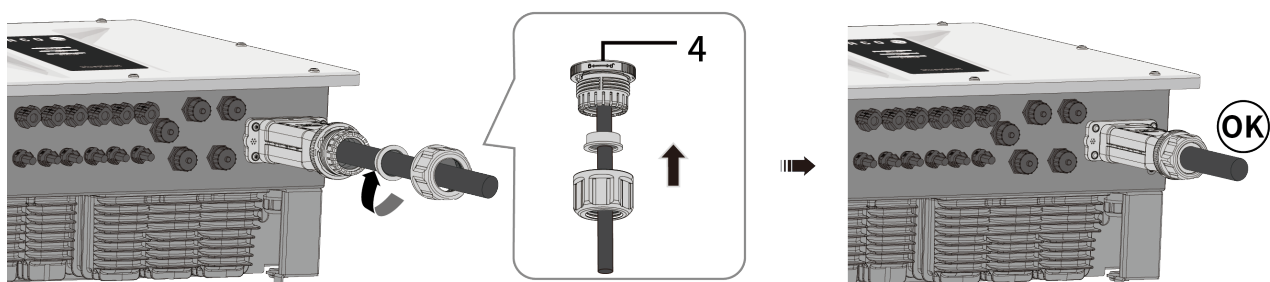

Fig. 20. Attach the AC cover and tighten the nut.
4. Tighten the nut with an open-ended wrench and complete the installation with a “click, click” [$\times W_{50}$ / 10.0 Nm] (see Fig. 20)